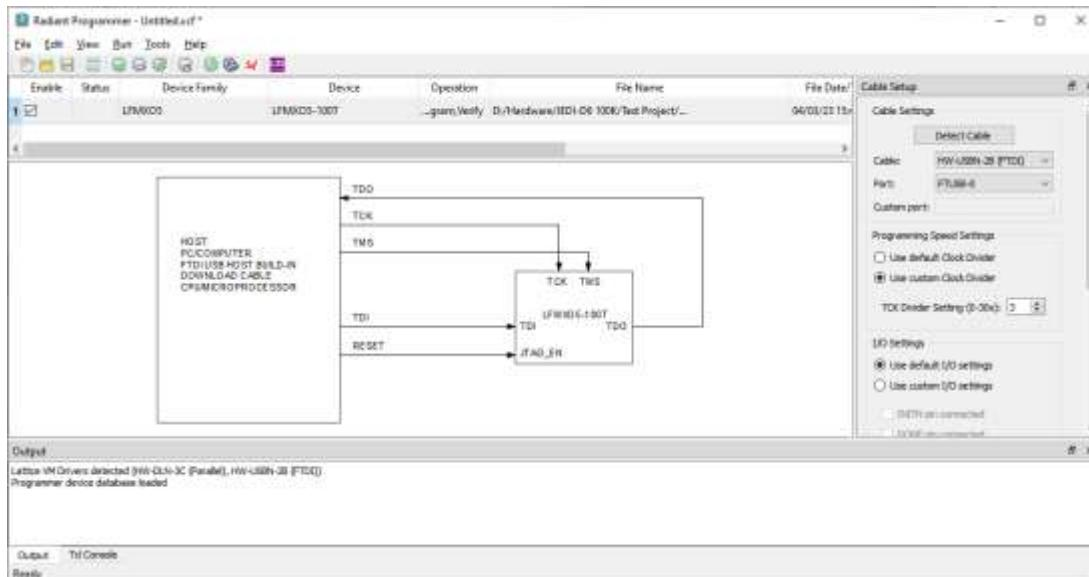

Figure 11.7. Radian Programmer – Ready for Flash Programming
11. Click the **Program Device** button  in Radiant Programmer as shown in Figure 11.7.